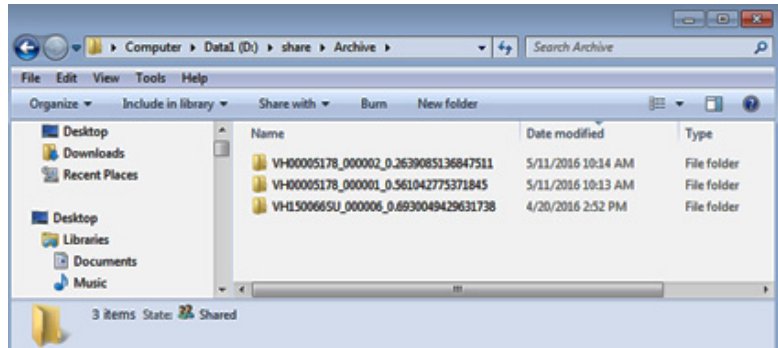

Figure 5-27. Exported image folder
- The exported folder is as as shown in the Figure 5-27 below.